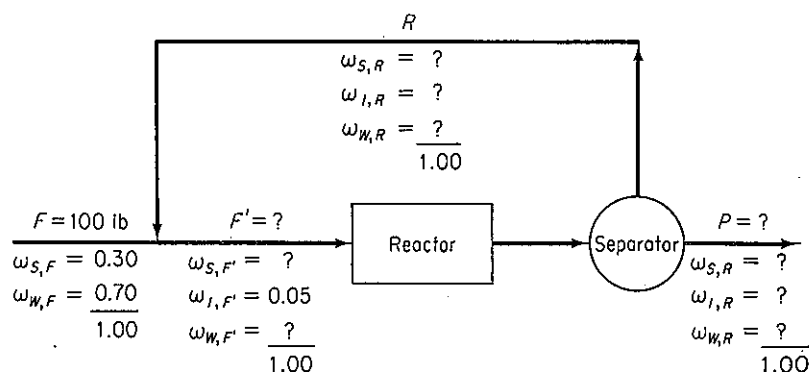

Figure E2.27b
**Steps 1, 2, and 3** First we need to enter the concentrations and stream flows on the diagram. See Fig. E2.27b. (*W* stands for water, *S* for sucrose, and *I* for inversion sugar in the mass fraction subscripts.)